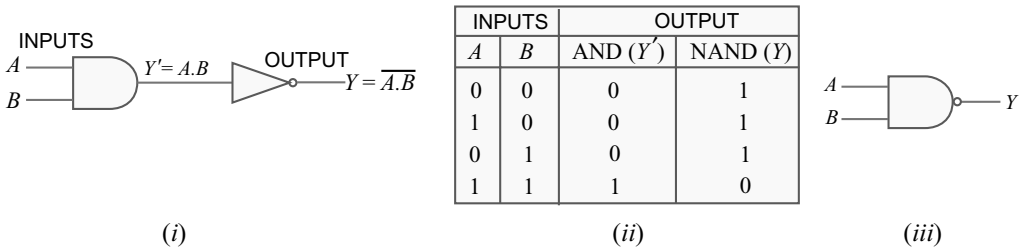

Fig. 24.18
(i) **NAND gate.** When the output of an AND gate is connected to the input of a NOT gate, the resulting gate is called **NAND gate** as shown in Fig. 24.18 (i). The Boolean expression for NAND function is
To perform the Boolean algebra operation, first the inputs must be ANDed and then the inversion is performed. Fig. 24.18 (iii) shows the logic symbol for a NAND gate. The little bubble (small circle) on the right end of the symbol means to invert the AND.
**Truth Table for NAND gate.** For NAND gate,  $Y = \overline{A.B}$ . Clearly, the output of a NAND gate is opposite to that of AND gate. This fact is shown in the truth table for NAND gate in Fig. 24.18 (ii). Note that truth table for the NAND gate is developed by *inverting the outputs* of the AND gate. *The output of a NAND gate is low when both the inputs are high, otherwise the output is high.*